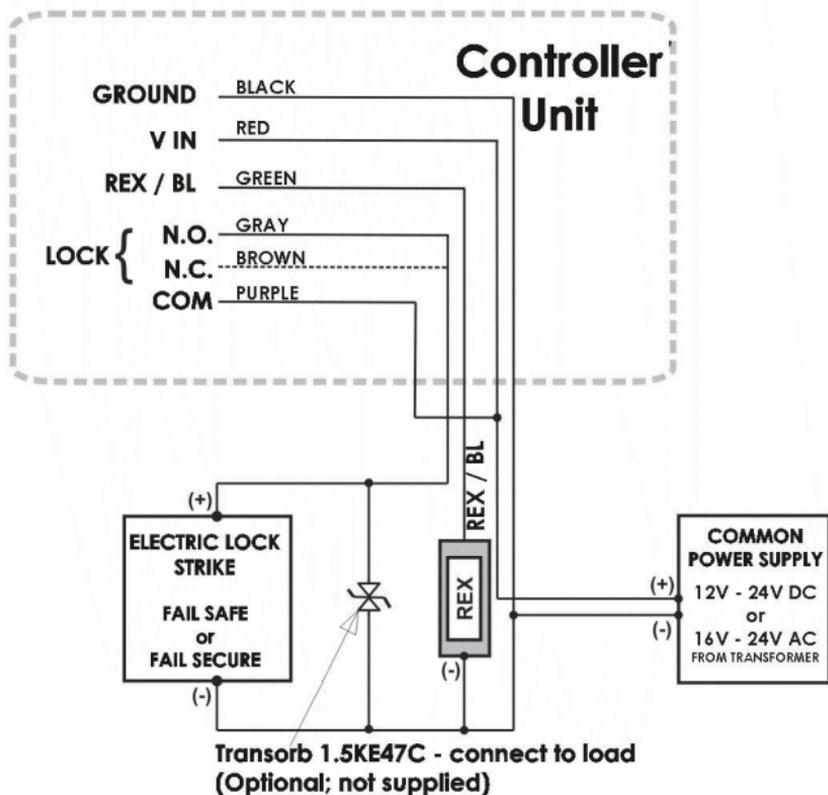

Figure 3: Wiring Diagram for Lock Strike Relay & REX
- Wiring the Lock Strike Relay & REX (Figure 3)